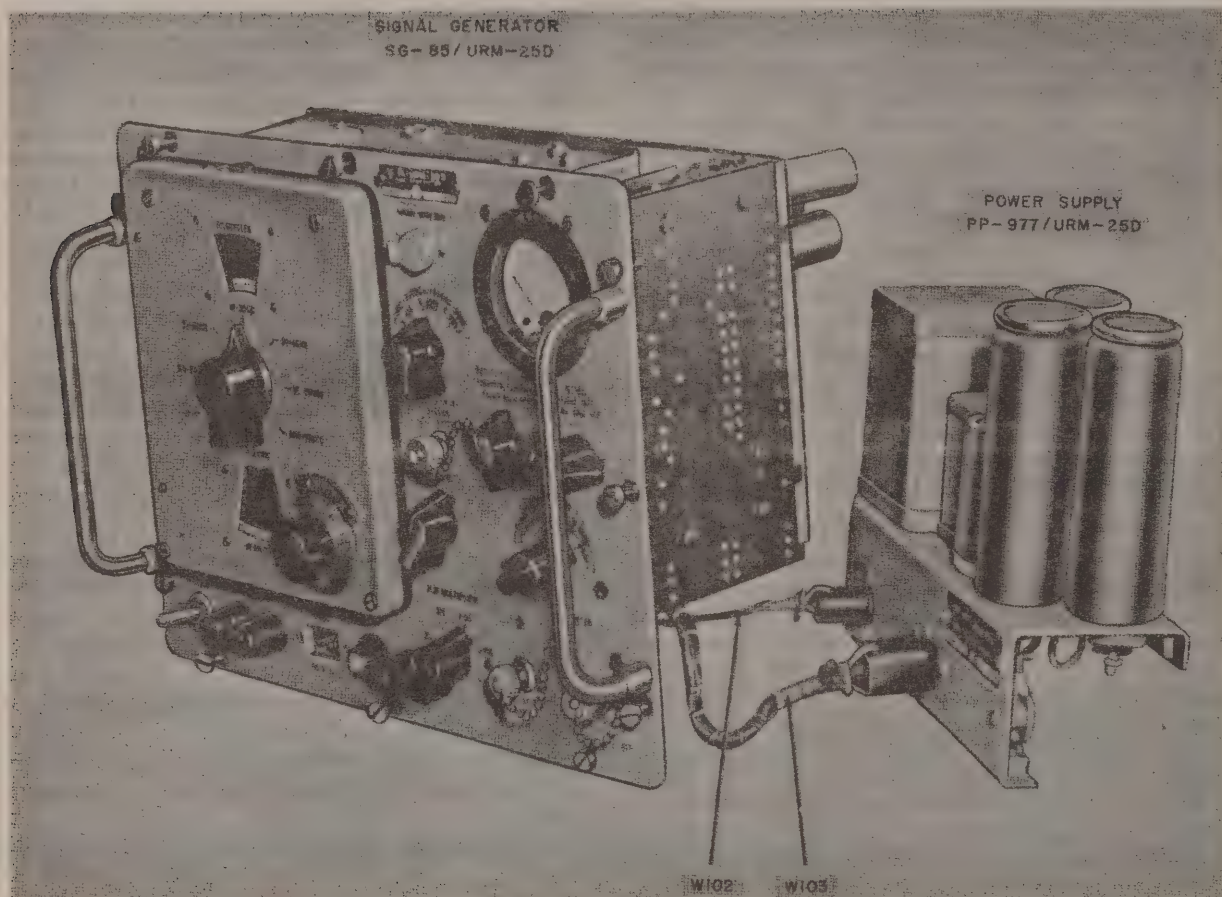

Figure 6-4. RF Signal Generator SG-85/URM-25D and Power Supply PP-977/URM-25D Connected Outside Cabinet for Testing
(2) With the signal generator and power supply sub-assemblies removed from the cabinet, the equipment can again be connected for use and testing by applying the following procedure (figure 6-4):